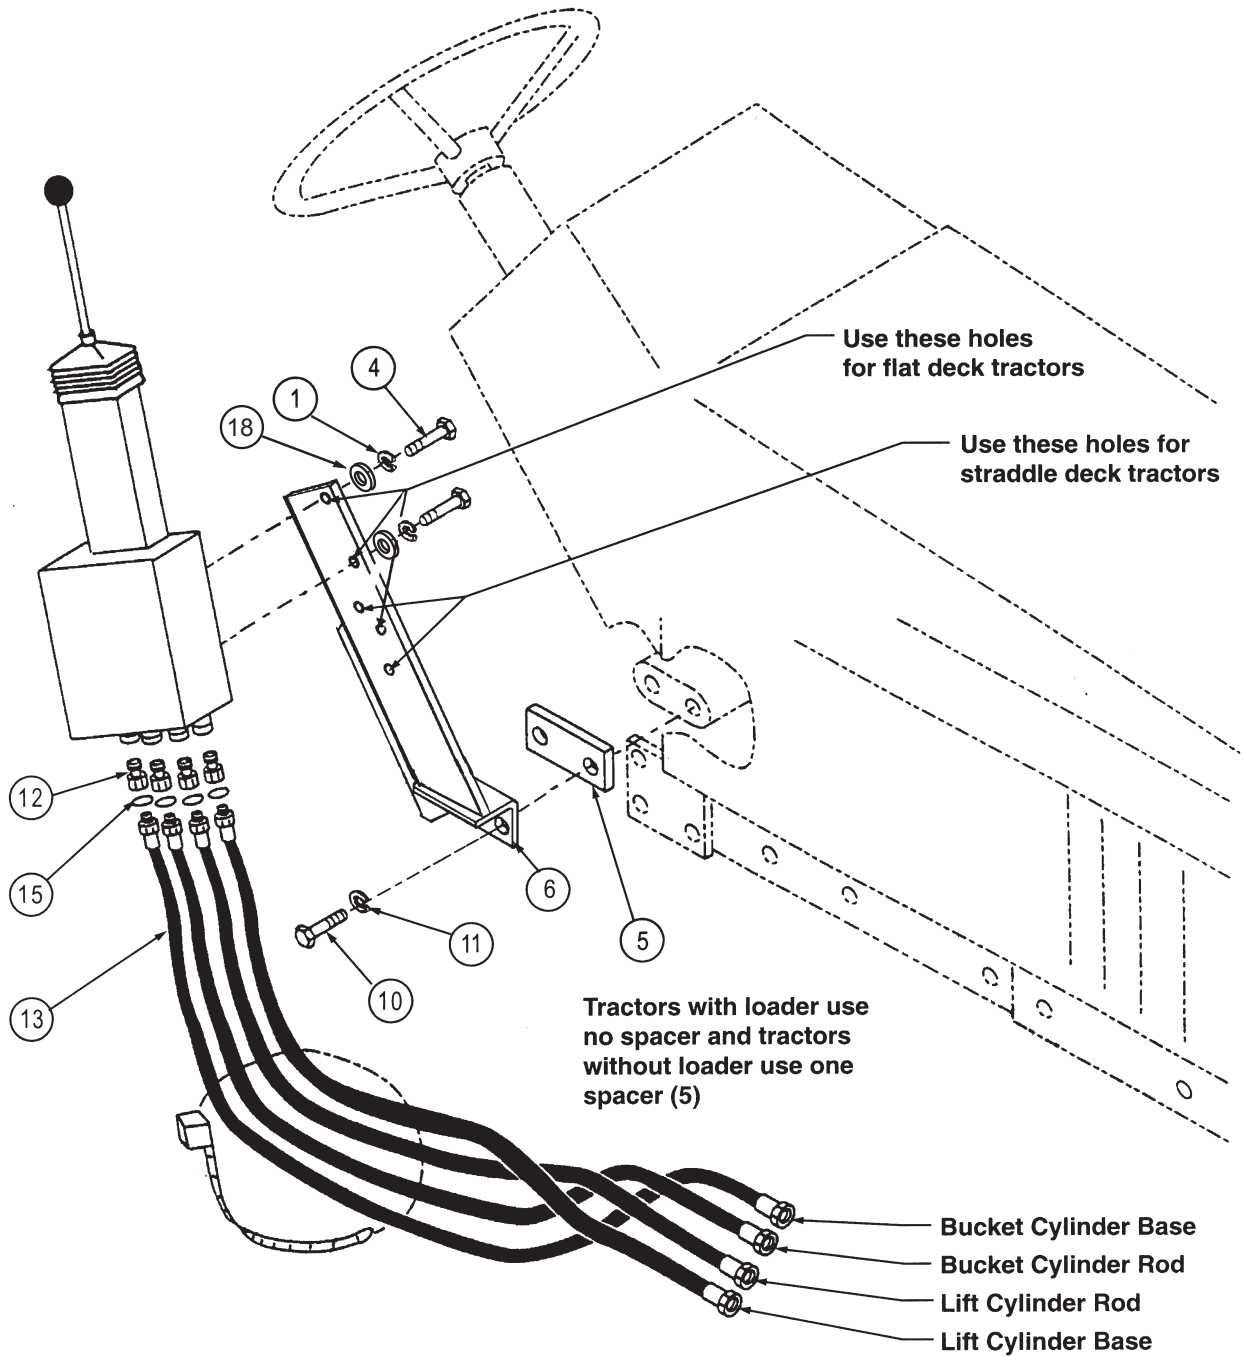

Figure 2
1. Remove fitting from front dual pump pressure line on left underside of the tractor, and replace with 13/16-16 O-ring male tee (46)(see Figure 7A). Attach 1/2 x 80 pressure hose (47) to 13/16-16 O-ring tee (46) and route rearward and up over and ahead of 3-Pt hitch rockshaft housing to right side of tractor (see figures 2, 3 and 4). Attach 1-1/16 -12 JIC tee (48) to 3/4 x 44 pressure hose (42) and connect 1/2 x 80 pressure hose (47) to opposite end of tee (48).
2. Remove rearmost elbow on top of right remote tractor valve and replace with 1-14 O-ring swivel tee (17). This is the pressure port. Connect existing tractor steel oil line to stem of swivel tee (17) and connect 1/2 x 54 pressure hose (50) to branch of swivel tee (17)(see figures 2, 3 or 4 to determine which installation matches tractor). Route pressure hose (50) forward along right side of casting. Be sure hoses do not interfere with draft control or foot pedal linkages. Connect female end of 1-1/16-12 x 7/8-14 JIC elbow (49)(figure 7) to open end of male tee (48). Attach 1/2 x 54 pressure hose (50) to male end of elbow (49).
3. Use 3/16 x 11 plastic tie straps (not shown) to hold pressure hoses (47)(50) so they do not interfere with tractor linkages.
INSTALLING LOAD SENSING LINES (Figs. 2,3,4 and 7)